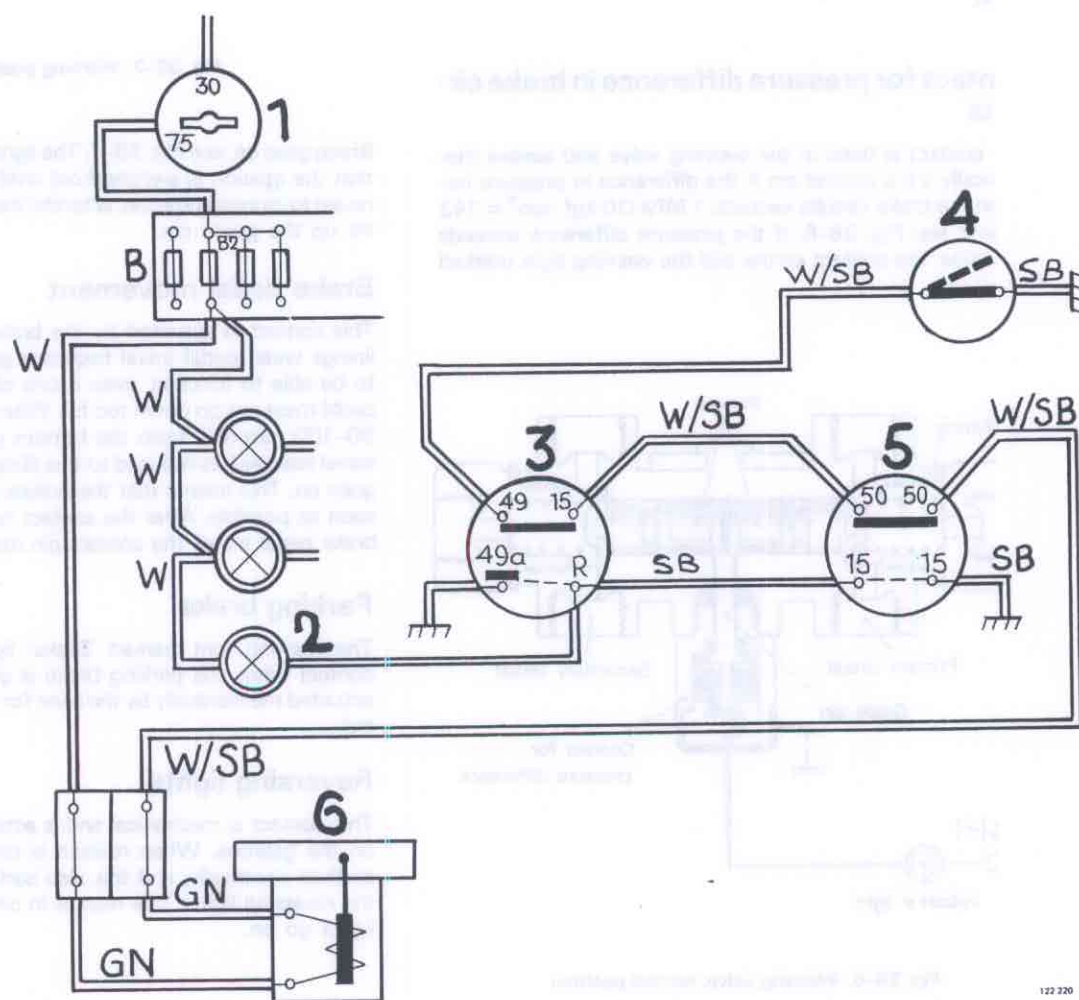

Fig. 38-5. Wiring diagram for front-wheel drive
The electrical system which operates the mechanical engagement of the front-wheel drive comprises the following components: solenoid, switch, contacts and indicator light, see layout diagram, Fig. 38-5.
- Ignition. With the ignition key in neutral, the current is broken and front-wheel drive is engaged. When the key is turned, the front-wheel drive is disengaged, providing that the contacts and switches are in the position shown in Fig. 38-5.